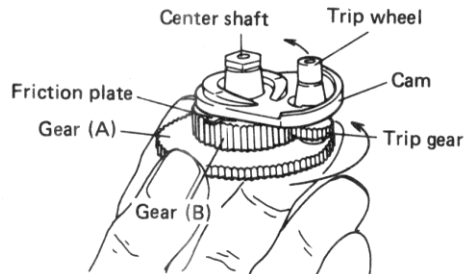
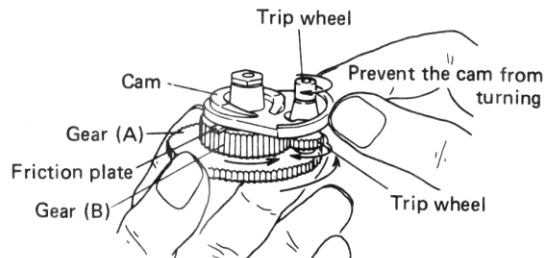

Fig. 4-2 Gear cluster
Fig. 4-3 Gear cluster operation
2. The gear cluster is shown in Fig. 4-2. When the cam is held immovable and gear (A) is rotated in a counterclockwise direction, a small amount of friction is felt, but gear (B) and trip gear also rotate. Note that rotation of the trip gear also rotates the trip wheel. (Fig. 4-3) Also note that when the cam is free to rotate, friction will cause it to rotate in the same direction as gear (A) and (B).
4. Turn the worm gear by hand imitating what would occur if the START/STOP button were depressed causing the motor to rotate the gear. Worm gear rotation causes gear (A) to rotate, and the gears shown in Fig. 4-2 and 4-3 of item 2 above all turn in a clockwise direction.
6. As the assembly rotates further, the trip wheel and PU plate attached to the tonearm shaft come into contact, creating the same condition as occurred in item 2 where the cam was held in an immovable position. Continued rotation of the trip wheel causes the PU plate attached to the tonearm shaft to turn.